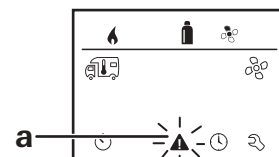

Fig. 25
1. Select the icon ("Fig. 25") with the rotary push button.
- i** In this case, the error is not acknowledged in the CP plus VarioHeat and the warning icon (Fig. 25) remains. The appliance remains in error status. Other connected appliances can be operated.
1. Select the warning symbol (Fig. 25) with the rotary push button.